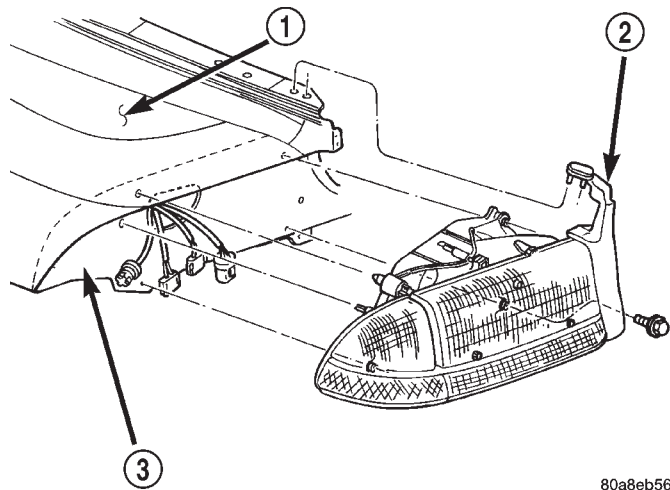

Fig. 1 Headlamp
- (1) Open hood.
- (2) Remove the bolts attaching headlamp to the inner fender panel (Fig. 1).
- (3) Grasp the headlamp and firmly pull the headlamp to disengage it from the panel.
- (4) Disengage the connector from the headlamp bulb.
- (5) Separate bulb from headlamp.
- (6) Remove the bulb sockets from the front park/turn signal/side marker lamps
- (7) Separate headlamp module from vehicle.